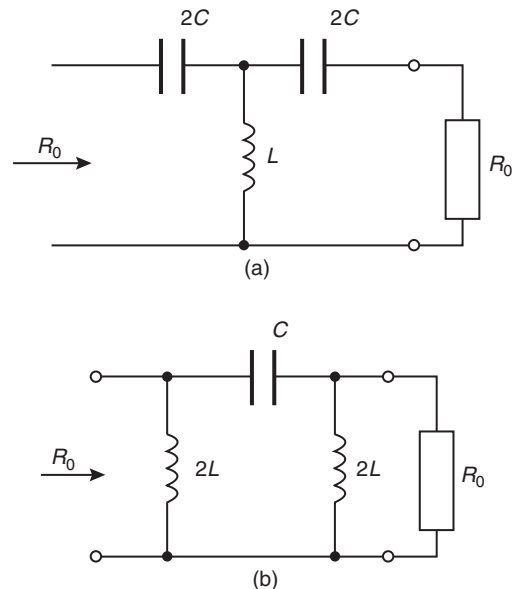
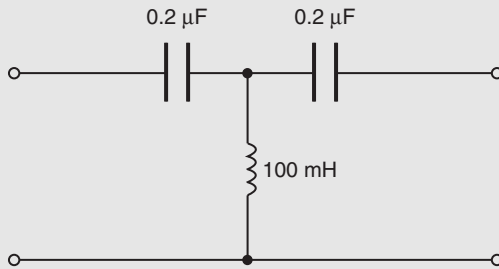
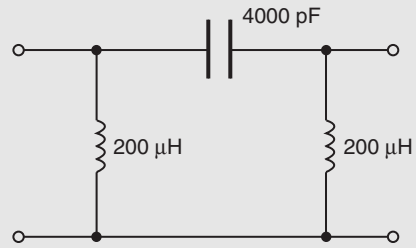

Figure 17.16
Figure 17.17
Figure 17.18
A high-pass symmetrical T-network and a high-pass symmetrical  $\pi$ -network are shown in Fig. 17.16. It may be shown that the cut-off frequency,  $f_c$ , for each section is the same, and is given by:
**Problem 4.** Determine the cut-off frequency and the nominal impedance for the high-pass T-connected section shown in Fig. 17.17.
Comparing Fig. 17.17 with the high-pass section of Fig. 17.16(a), shows that:
**Problem 5.** Determine the cut-off frequency and the nominal impedance for the high-pass  $\pi$ -connected section shown in Fig. 17.18.
Comparing Fig. 17.18 with the high-pass section of Fig. 17.16(b), shows that:
are each  $2C$  (see Fig. 17.16(a)), i.e.  $2 \times 5.305 = 10.61 \text{ nF}$
Thus, from Fig. 17.16(a), the series arm capacitances are each  $2C$ ,